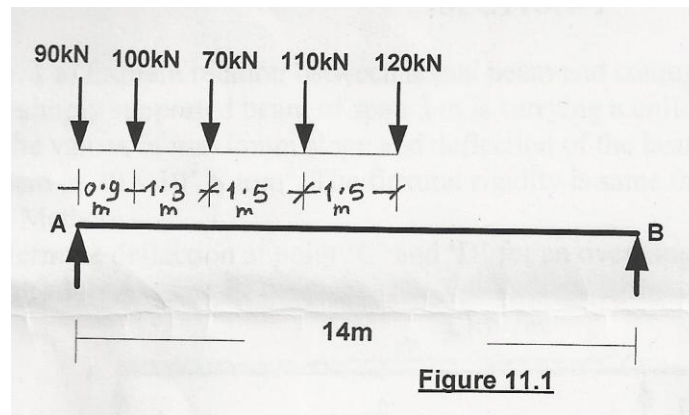

Figure 11.1
Q. No. 11: a) A uniformly distributed load of 75 kN/m of 6m long crosses a girder AB of span 20m. Calculate maximum shear force and maximum bending movement at a section 10m from end A. (8)
b) Find the maximum positive and negative end shear for the girder as shown in Figure 11.1